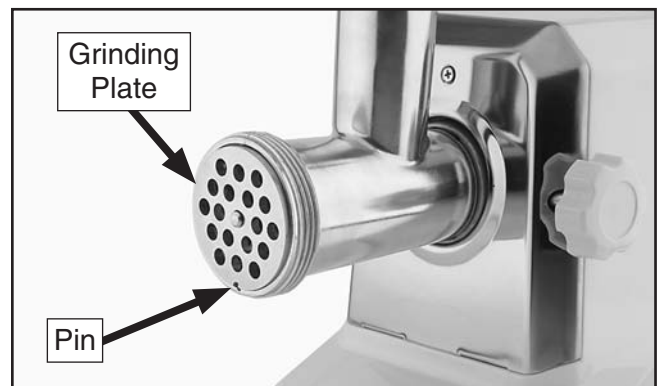

Figure 8. Grinding plate installed.
6. Insert a grinding plate onto the end of the auger, aligning the notch in the plate with the pin on the grinding head, as shown in **Figure 8**.